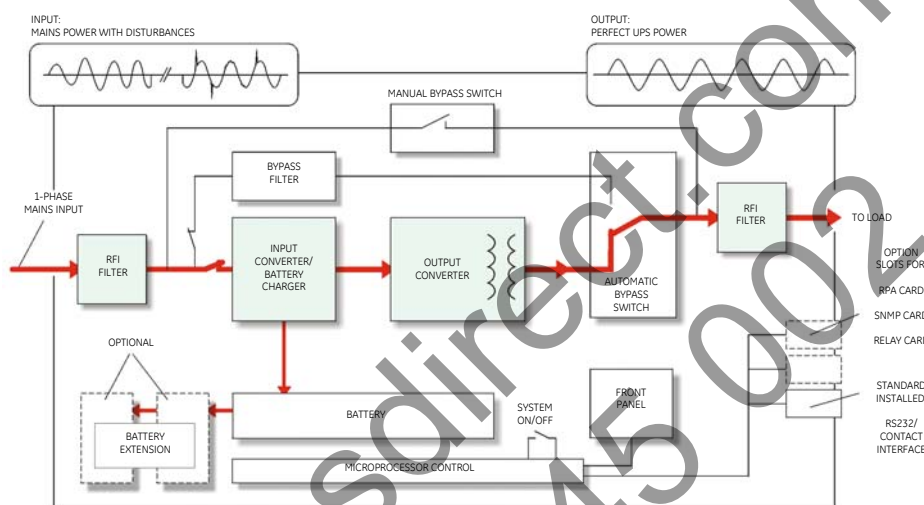

Figure 2. Block diagram of the LP 11 UPS, mains present
Energy is stored as Direct Current (DC), while input and output energy must be Alternating Current (AC). Therefore the UPS contains an input converter (AC to DC) and an output converter (DC to AC). (fig.2)